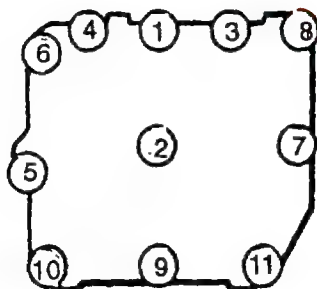

FIGURE 3-16. Crankcase Door Fastener Tightening Sequence
- c. Position new gasket (8) and crankcase door (7) on crankcase and secure with seven bolts (3), two nuts (5) and two standoff studs (6) with eleven washers (4). Tighten bolts (3) to 78 in-lbs (8.8 Nm) in sequence shown in FIGURE 3-16